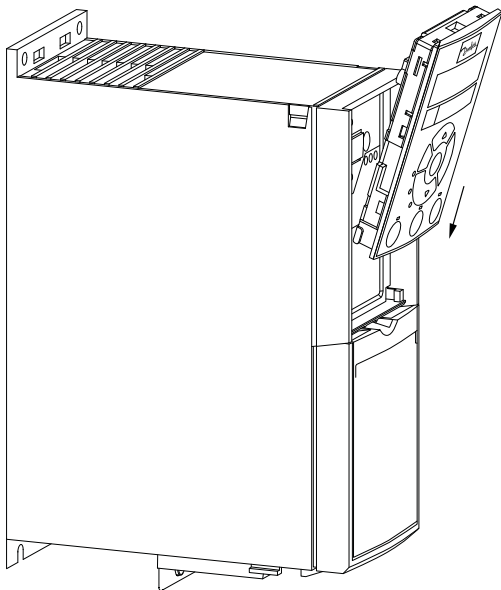

Fig. 45 - Align Bottom of VFD Keypad with Opening in VFD Front Panel
1. Place the bottom of the VFD keypad into the variable frequency drive as shown in Fig. 45.